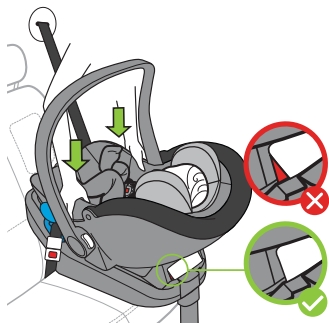

Figure 68
- Lower Carrier onto Base and push down on each side of the Carrier to connect it to the Base as shown in **Figure 68**. The red area on the side of the Release Handle will completely disappear when the Carrier is securely attached. If the red area is visible, the Carrier is **NOT** properly secured.